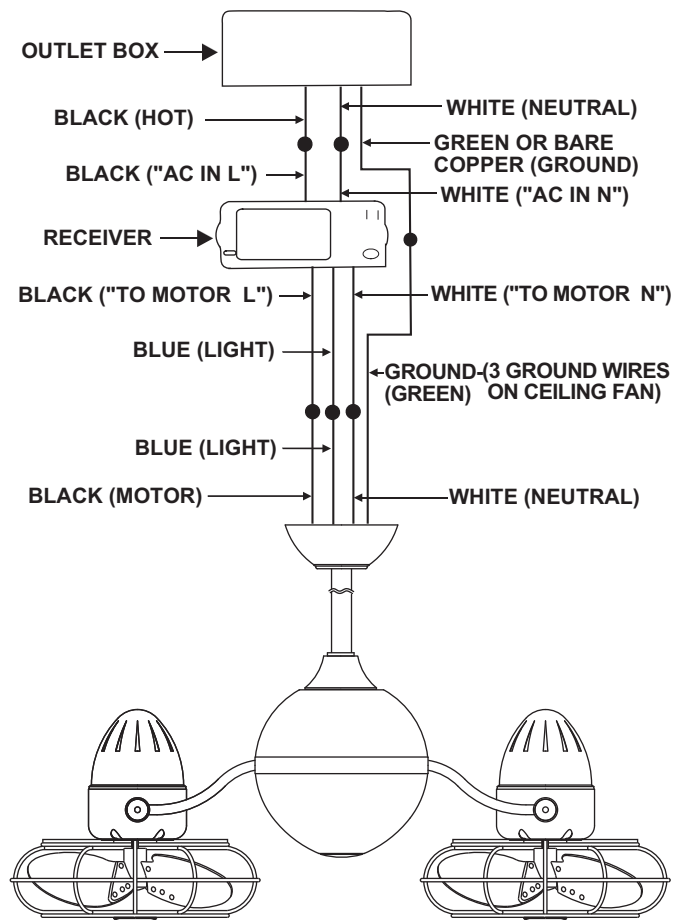

Figure 11
2. Motor to Receiver Electrical Connections: Connect the WHITE wire from the fan to the WHITE wire marked "TO MOTOR N" from the Receiver. Connect the BLACK wire from the fan to the BLACK wire marked "TO MOTOR L" from the Receiver. Connect the BLUE wire from the fan to the BLUE wire marked "Light" from the Receiver. Proceed to secure all wire connections with the plastic wire nuts provided. (Fig. 11)
3. Receiver to House Supply Wires Electrical Connections: Connect the WHITE wire (Neutral) from the outlet box to the WHITE wire marked "AC in N" from the receiver. Connect the BLACK wire (Hot) from the outlet box to the BLACK wire marked "AC in L" from the receiver. Secure all wire connections with the plastic wire nuts provided. (Fig. 11)
4. If your outlet box has a GROUND wire (Green or Bare Copper) connect this wire to the Hanger Ball and Hanger Bracket Ground wires. If your outlet box does not have a Ground Wire, then connect the Hanger Ball and Hanger Bracket Ground Wires together. Secure wire connection with the plastic wire nut provided. (Fig. 11)